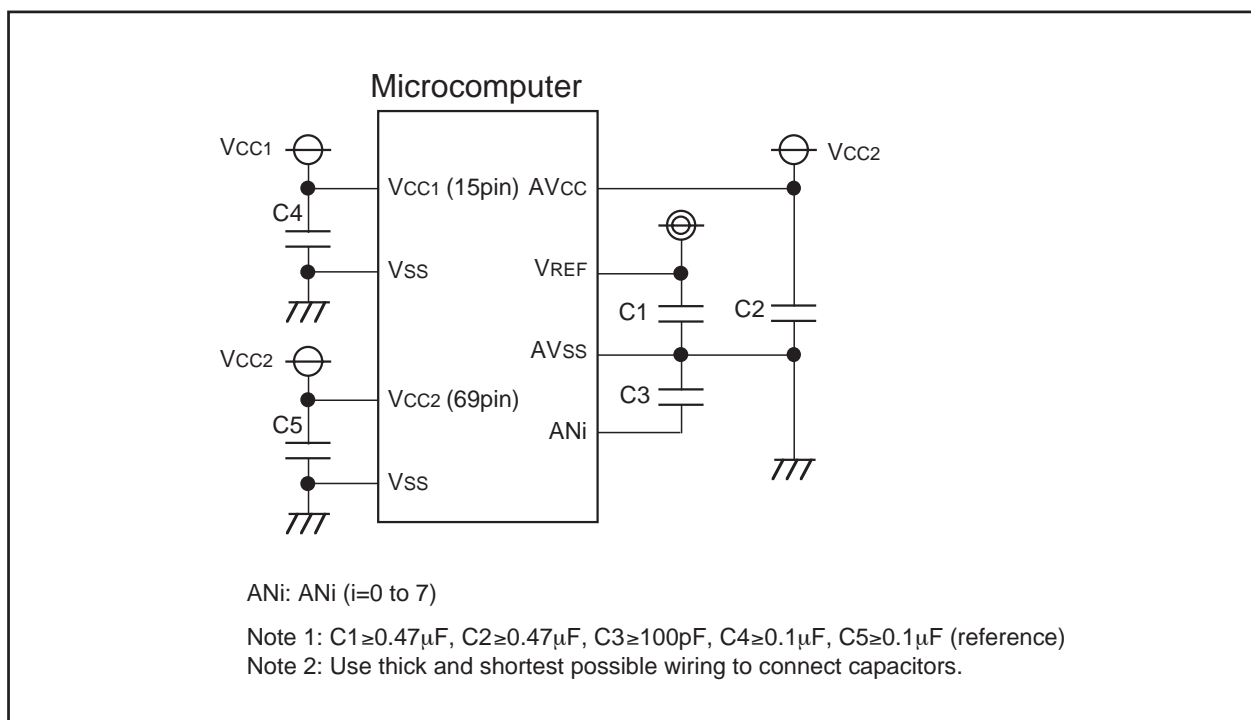

Figure 6.2. Use of capacitors to reduce noise
3. To prevent noise-induced device malfunction or latchup, as well as to reduce conversion errors, insert capacitors between the AVCC, VREF, and analog input pins (ANi(i=0 to 7)) each and the AVss pin. Similarly, insert a capacitor between the VCC pin and the Vss pin. Figure 6.2 is an example connection of each pin.